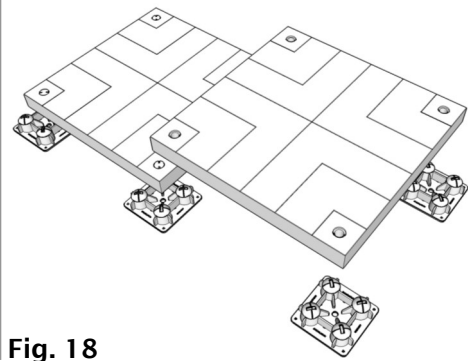

Fig. 18
9. Place a Pad (B) onto the last 2 Piers (A) installed, and onto 2 of the first 4 Piers (A) installed. (Fig. 18 & 19)